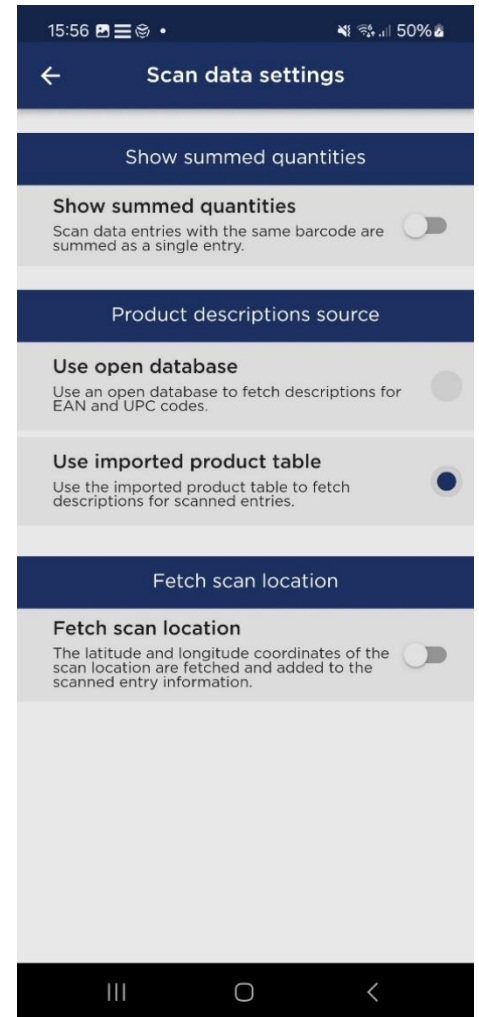

Figure 8-3: The Scan Data settings page.
Scan Data Settings Button (9): Opens the *Scan Data* settings page (see Figure 8-3), where you can configure how the scan data is displayed and managed.